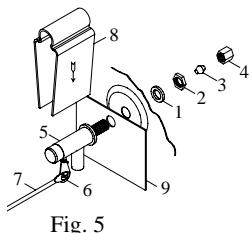

Fig. 5
Float valve. Refer to Fig. 5 to install float. Remove items 1, 2, 3, and 4. Insert float body (5) through hole in splash plate (9) and back post panel as shown. Install washer (1) and nut (2). Tighten to